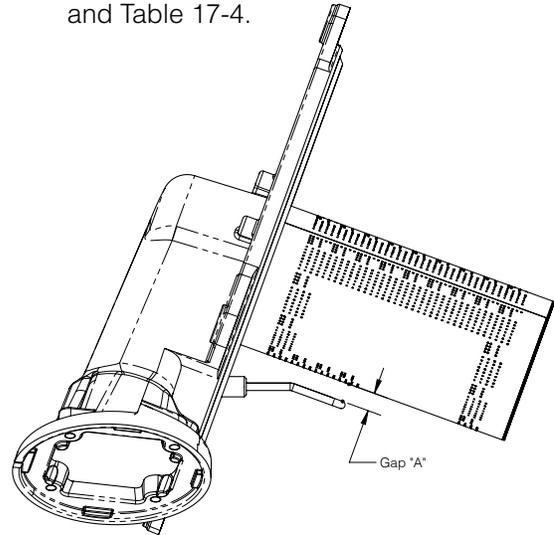

Figure 17-3: Ignitor/Flame Sensor to Burner Gap
- D. Verify gap between ignitor/flame sensor and burner is within range shown in Figure 17-3 and Table 17-4.
- B. Check ignitor flame sensor distance to burner per Figure 17-3.